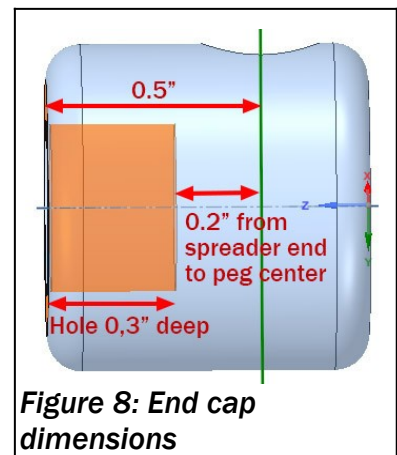

Figure 8: End cap dimensions
7. Refer again to **Figure 8**. The face of the end cap will be 0.5" from the pencil line when the spreader is inserted into the cap.